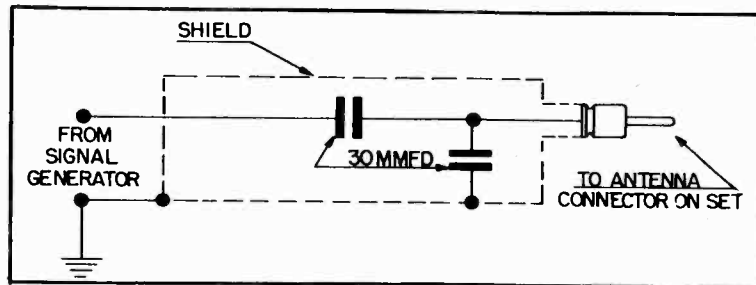

Fig. 14
Figure 14 shows the schematic of a recommended dummy antenna, closely resembling actual antenna capacity, to be used in series with signal generator leads when aligning the R. F. section of the receiver.
1. Connect signal generator leads through dummy, illustrated in Fig. 14, to antenna lead in socket on receiver. This is important.
2. Connect signal generator leads through dummy, illustrated in Fig. 14 to antenna receptacle on the receiver.